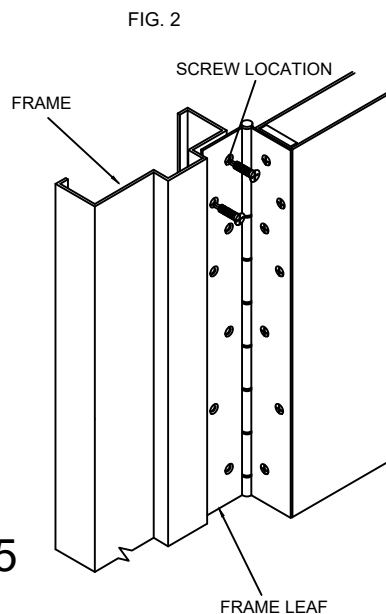

FIG. 5
2. **Attach Hinge to Frame (FIG. 5):**